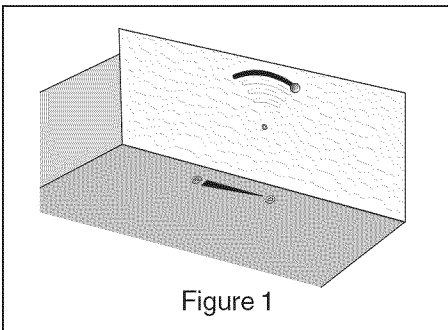

Figure 1
**For dry heat:** Slide the humidity control knob in the direction of less moist (☹️) (Figure 1). This allows more of the moist heat to escape and provides a dryer environment for the food in the Warmer Drawer.